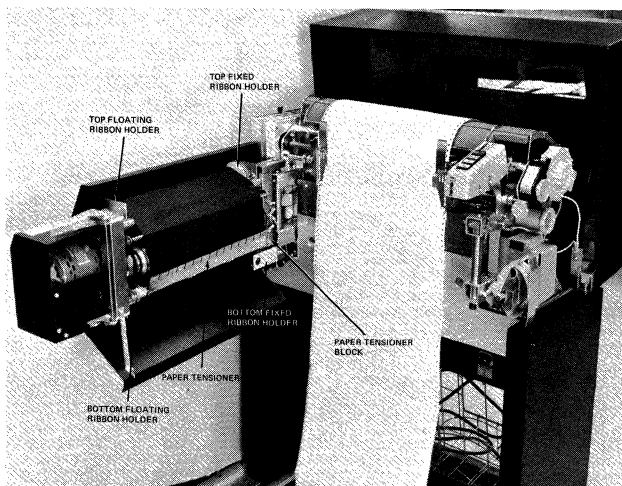

Figure 13-7. Printer with Ribbon and Paper Tensioner Installed
10. With ribbon installed, replace the paper tensioner. Insert the paper tensioner block into position (see Figure 13-7).
11. Push in the paper tensioner against the tensioner plunger knob indexing slot while with the other hand pulling the tensioner plunger knob out to allow slot engagement. Once engaged, release the knob. Figure 13-7 shows ribbon and tensioner completely installed.